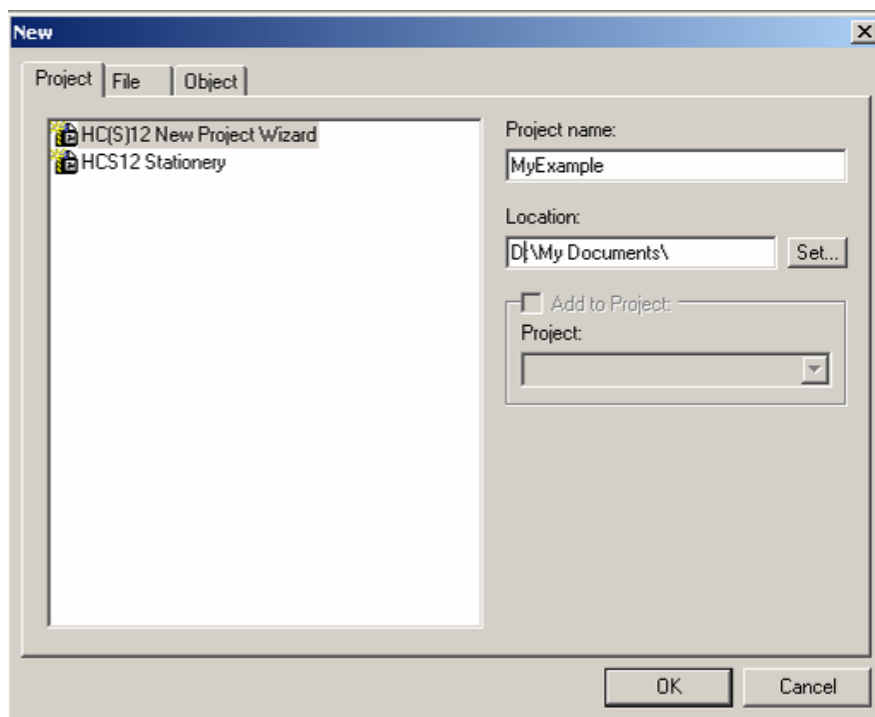

Figure 2. CodeWarrior New Project Window
- 2) From the IDE main menu bar, select: File > New; a new window will appear as seen in Figure 2.